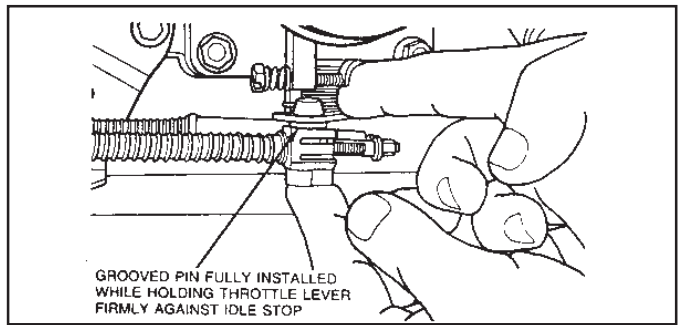

Figure 29
7.13 Insert grooved pin back into grommet. (See Fig. 29.)